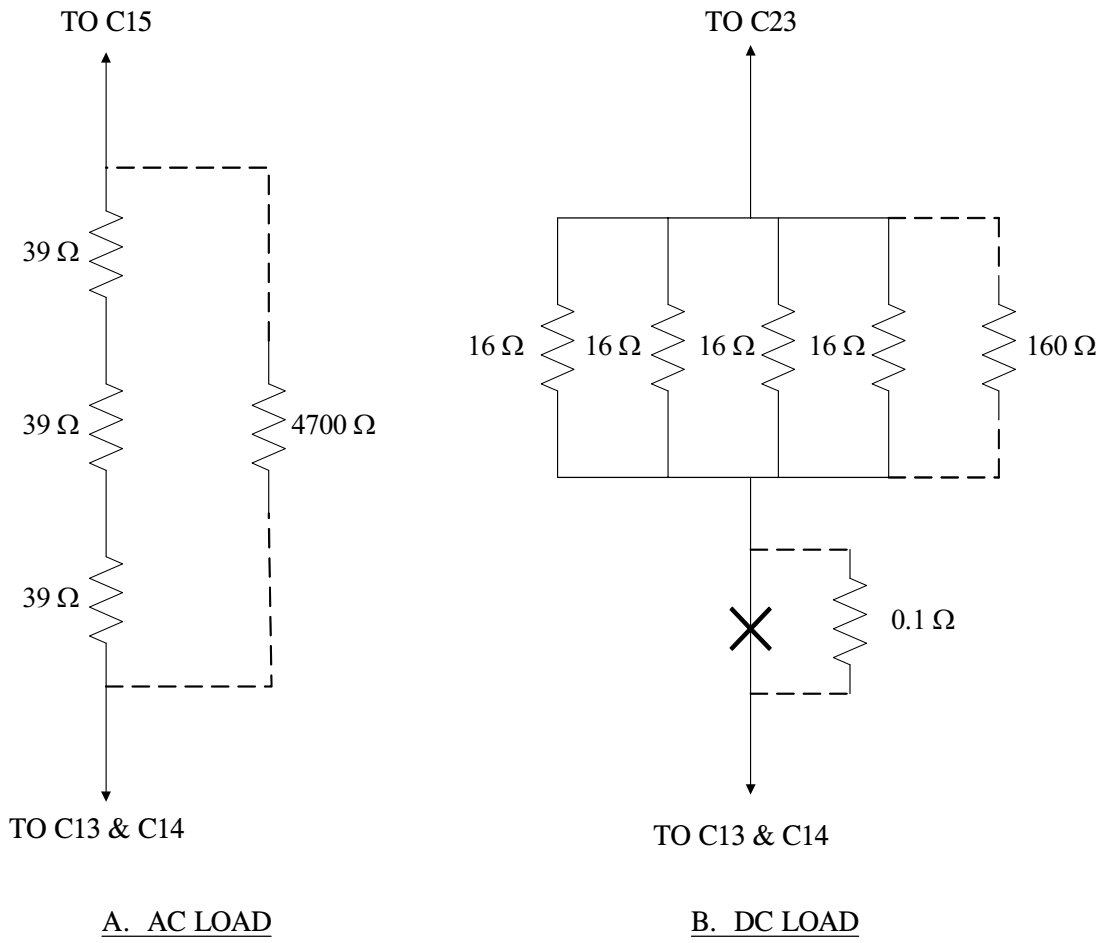
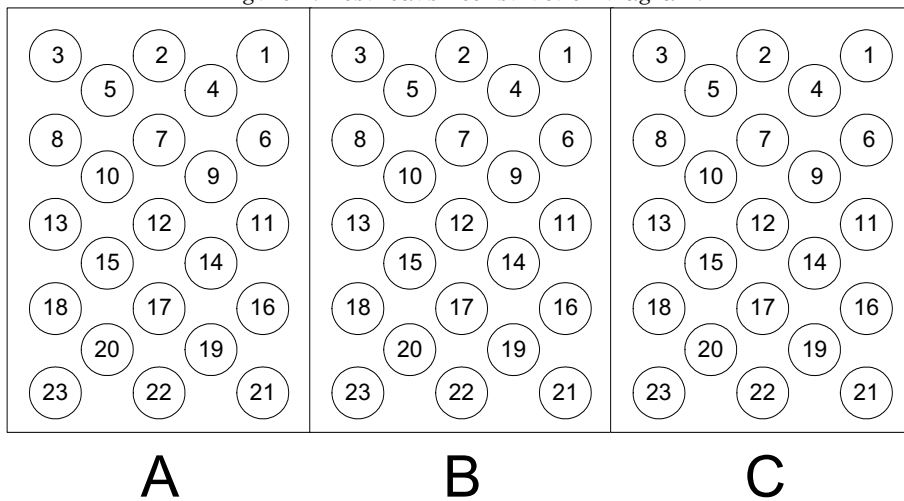

Figure 1. Test loads - construction diagram.
Figure 2. Transponder J2 - pin locations.
c. Construct test loads as shown in figure 1 A. AC LOAD and figure 1 B. DC LOAD.
d. Using multimeter, measure resistance value of ac load (fig. 1 A. AC LOAD). If resistance value exceeds 117.8  $\Omega$ , add 4700  $\Omega$ , resistor as shown in figure 1 A. AC LOAD.
e. Repeat d above for dc load (fig. 1 B. DC LOAD). If resistance value exceeds 4.1  $\Omega$ , add 160  $\Omega$  resistor as shown in figure 1 B. DC LOAD. If dc load is less than 3.9  $\Omega$ , add 0.1  $\Omega$  resistor as shown in figure 1 B. DC LOAD.
f. Connect one end of ac load (fig. 1 A. AC LOAD) to **TRANSPONDER J2** pin C15 (fig. 2), using appropriate lead. Connect other end of ac load to **TRANSPONDER J2** pins C14 and C13 (fig. 2), using appropriate leads.
**g.** Connect multimeter across ac load, common lead (-) to C13 (fig. 1 A. AC LOAD) side and positive (+) to C15 (fig. 1 A. AC LOAD) side of load. Set multimeter controls to measure ac V.
(2) Set **6 AMP POWER** circuit breaker to **ON**. Adjust **AC CONTROL** from a 115 V ac indication on TI voltmeter. Multimeter will indicate between 109 and 121 V ac.
(3) Adjust **AC CONTROL** for a 1 A indication on TI ammeter. Multimeter will indicate between 106 and 124 V ac.
(4) Set **AC CONTROL** fully ccw and **6 AMP POWER** circuit breaker to **OFF**.
(5) Disconnect ac load and multimeter from TI.
(6) Connect one end of dc load (fig. 1 B. DC LOAD) to **TRANSPONDER J2** pin C23, using appropriate lead. Connect other end of dc load to **TRANSPONDER J2**, pins C13 and C14, using appropriate leads.
(7) Connect multimeter across dc load using appropriate leads. Set multimeter to measure dc V.
(8) Position controls as listed in (a) through (c) below:
(9) Adjust **DC CONTROL** for a 28 V dc indication on TI voltmeter. Multimeter will indicate between 26.6 and 29.4 V dc.
(10) Adjust **DC CONTROL** for a 7 A indication on TI ammeter. Multimeter will indicate between 25.8 and 30.2 V dc. Set **DC CONTROL** fully ccw.
- (11) Disconnect multimeter and connect oscilloscope to dc load, using appropriate leads.
- (12) Adjust **DC CONTROL** for a 28 V dc indication on TI voltmeter.
- (13) Using standard measurement technique, measure the ripple voltage with oscilloscope. The ripple voltage as indicated by oscilloscope will not exceed 2 V p-p.